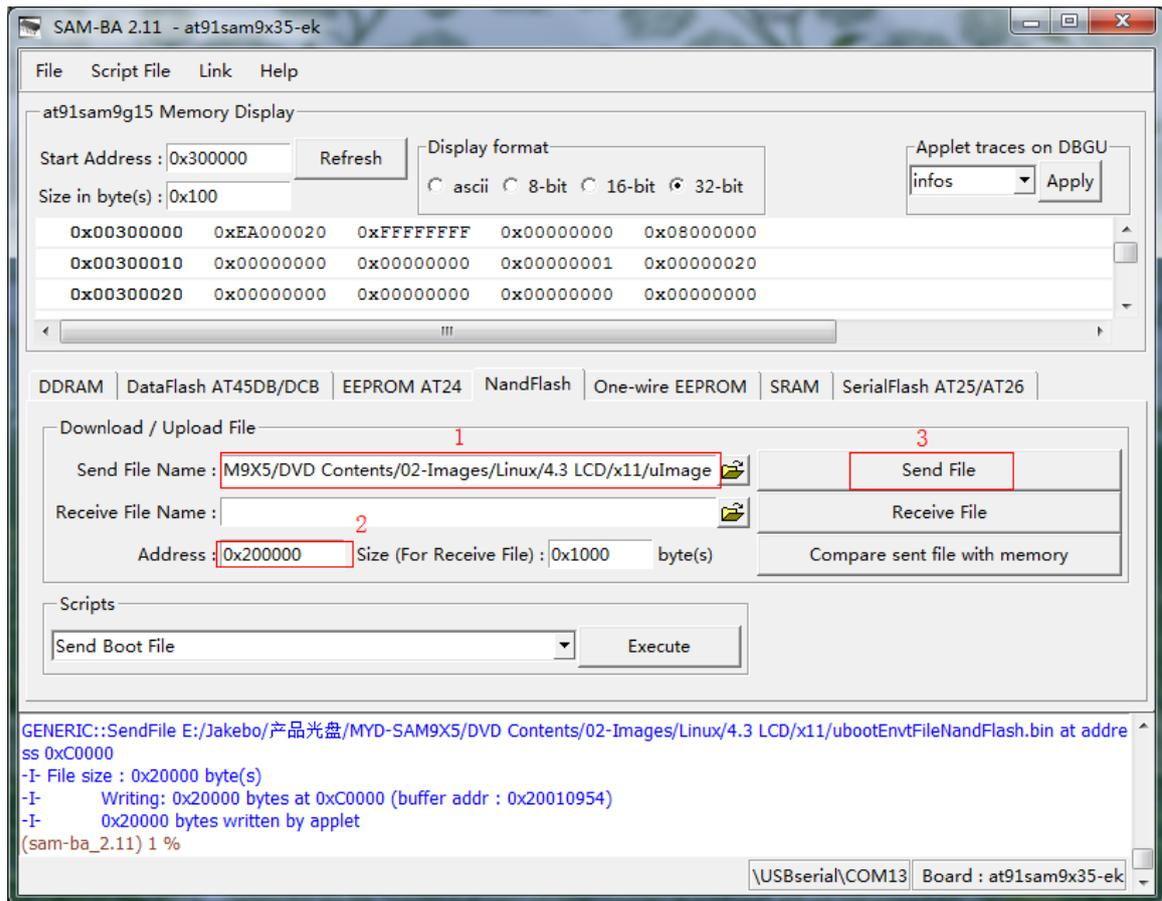

Figure 4-13
(6) Download Linux kernel ulmage to 0x200000. Refer to figure 4-13: